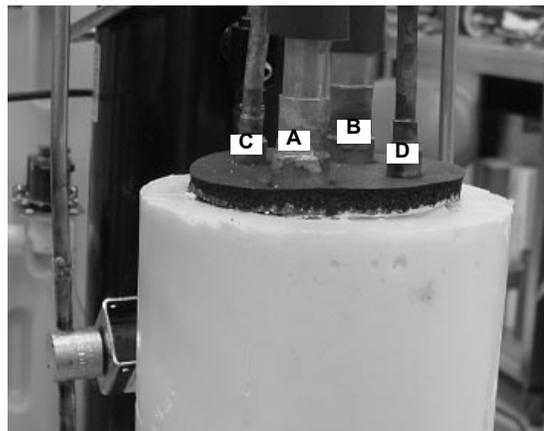

Figure 36.
35. Protecting the Armaflex insulation, as well as the foam insulation on the accumulator, braze the suction inlet (A) and outlet (B) (Figure 36).
36. Braze the liquid line inlet (C) and outlet (D) (Figure 36).